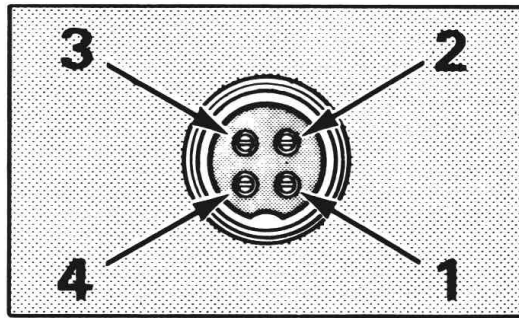

Fig. 5. Microphone plug pin numbers viewed from rear of pin receptacle.
5. The wires must now be soldered to the pins as indicated in the above wiring tables. If a vise or clamping tool is available it should be used to hold the pin receptacle body during the soldering operation, so that both hands are free to perform the soldering. If a vise or clamping tool is not available, the pin receptacle body can be held in a stationary position by inserting it into the microphone jack of the front panel. The numbers of the pins of the microphone plug are shown in Fig 5, as viewed from the back of the plug. Before soldering the wire to the pins, pre-tin the wire receptacle of each pin of the plug.